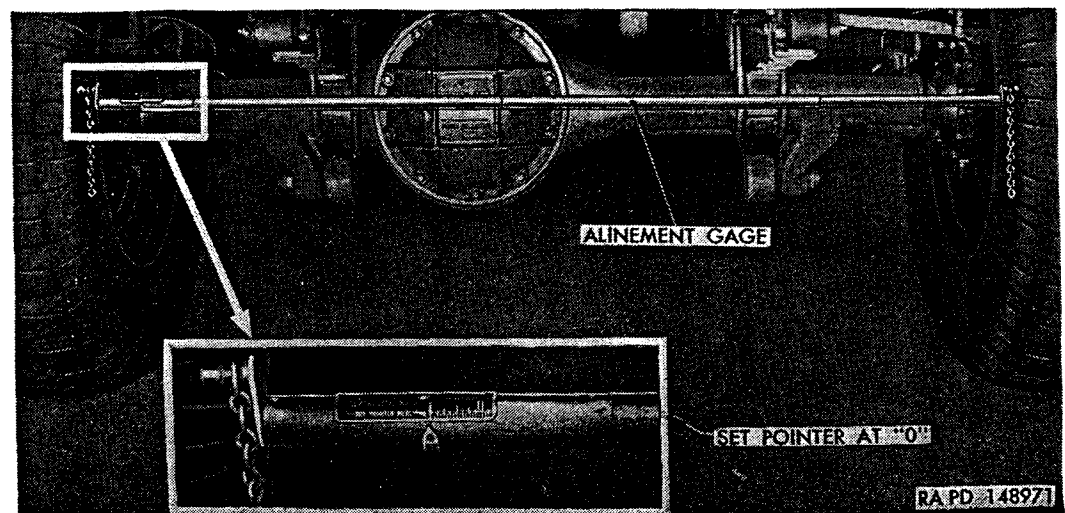

Figure 228. Checking toe-in.
a. *Toe-In Check* (fig. 228). Inflate tires to correct pressure (par. 258b) and check for proper wheel bearing adjustment (par. 265a); then position vehicle with the wheels in straightahead position. Place a toe-in wheel alinement gage between the wheels ahead of the axle at hub height with the ends of the gage bearing against the tire side walls and with ends of both pendant chains an equal distance from ground. Set gage so pointer registers zero. Remove gage and place at same relative position at rear of tire and with ends of pendant chains same distance from ground as at front. The pointer will indicate the amount of toe-in or toe-out. Correct toe-in is $\frac{5}{32}$ to $\frac{7}{32}$ inch.